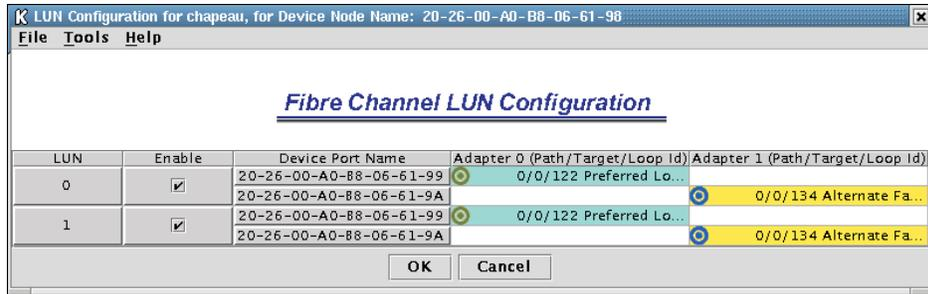

Figure 79. Fibre Channel LUN Configuration window
7. Click **Configure LUNS**. The LUN Configuration window opens (see Figure 79 on page 190).